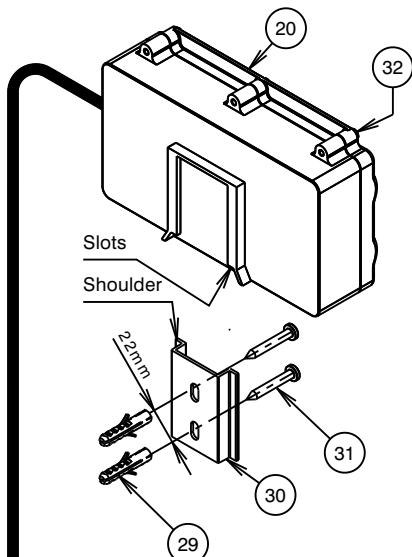

Fig.8 - Battery box installation
- i) Drill two Ø6mm holes, 40mm deep and 22mm apart vertically as shown in Fig. 8.
- ii) Insert small end of wall plugs (29) into drilled holes and tap until flush with wall/tile face.
- iii) Align the slots on bracket (30) with the holes on the wall, pass the screws (31) through the slots and insert into the wall plugs (29). Then tighten the screws DO NOT OVERTIGHTEN.
- iv) Slide the battery box (20) onto shoulder of bracket (30).
- i) Drill two holes at 22mm apart vertically to suit the self tapping screws supplied as shown in Fig. 8.
- ii) Align the slots on bracket (30) with the holes on the wall, pass the screws (31) through the slots and insert into the timber stud. Then tighten the screws (31). DO NOT OVERTIGHTEN.
- iii) Slide the battery box (20) onto the shoulders of bracket (30). Plug the power supply (21) into the mains and turn it ON.
7) Adding/Replacing batteries (See Fig. 8)